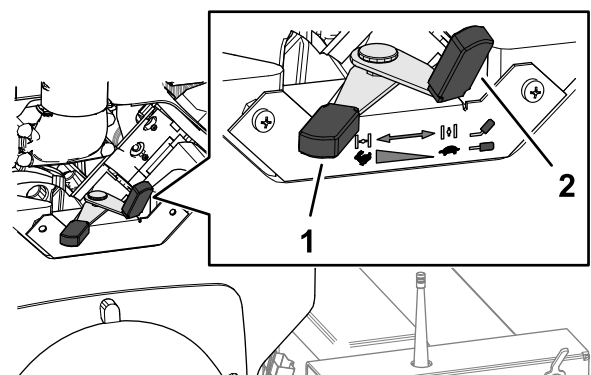

Figure 15
2. If the engine is cold, move the choke lever (Figure 15) to the ON position.
3. Move the throttle lever (Figure 15) midway between slow and fast positions.